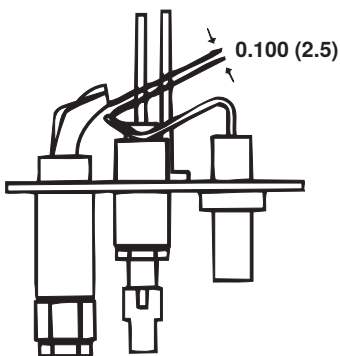

Figure 37. Pilot Assembly Spark Gap
4. Check the spark gap (see Figure 37), which should be maintained to 0.100 inch (2.5 mm).